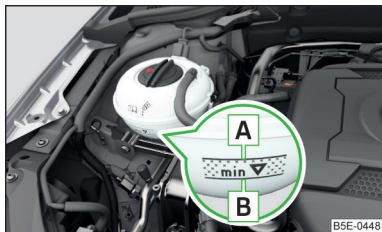

Fig. 188
The description of the coolant is shown in the coolant expansion reservoir » Fig. 188 on page 198.
- Do not fill the coolant above the mark **A** » Fig. 188 on page 198.
Coolant expansion tank » Fig. 188
» Check the coolant level in the coolant expansion tank » Fig. 188.
If the engine is warm, the test result may be inaccurate. The level can also be above the mark **A** » Fig. 188.